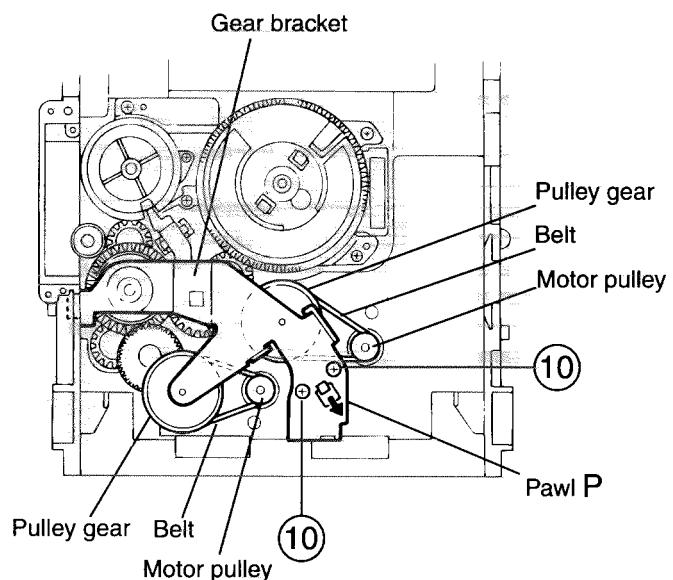

Fig.18
4. While turning the cam gear L, align the pawl "O" position of the select lever to the notch position(Fig.18) on the cam gear L.
5. Remove the four screws 9 retaining the cam unit(cam gear L and cams R1/R2 assembly)(See Fig.18).
## ■ Removing the actuator motor and belt (See Fig.18~21)